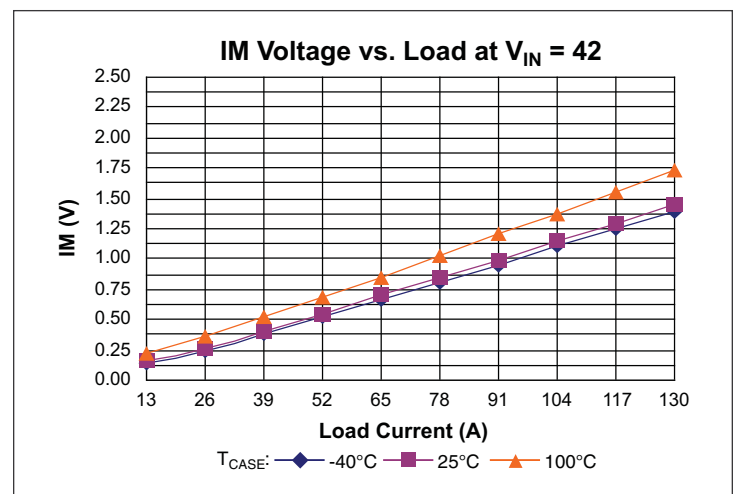

Figure 14 — IM voltage vs. load
Current Monitor (IM) pin provides a voltage proportional to the output current of the VTM module. The nominal voltage will vary between 0.15 V and 1.53 V over the output current range of the VTM module (See Figures 14–16). The accuracy of the IM pin will be within 25% under all line and temperature conditions between 50% and 100% load.